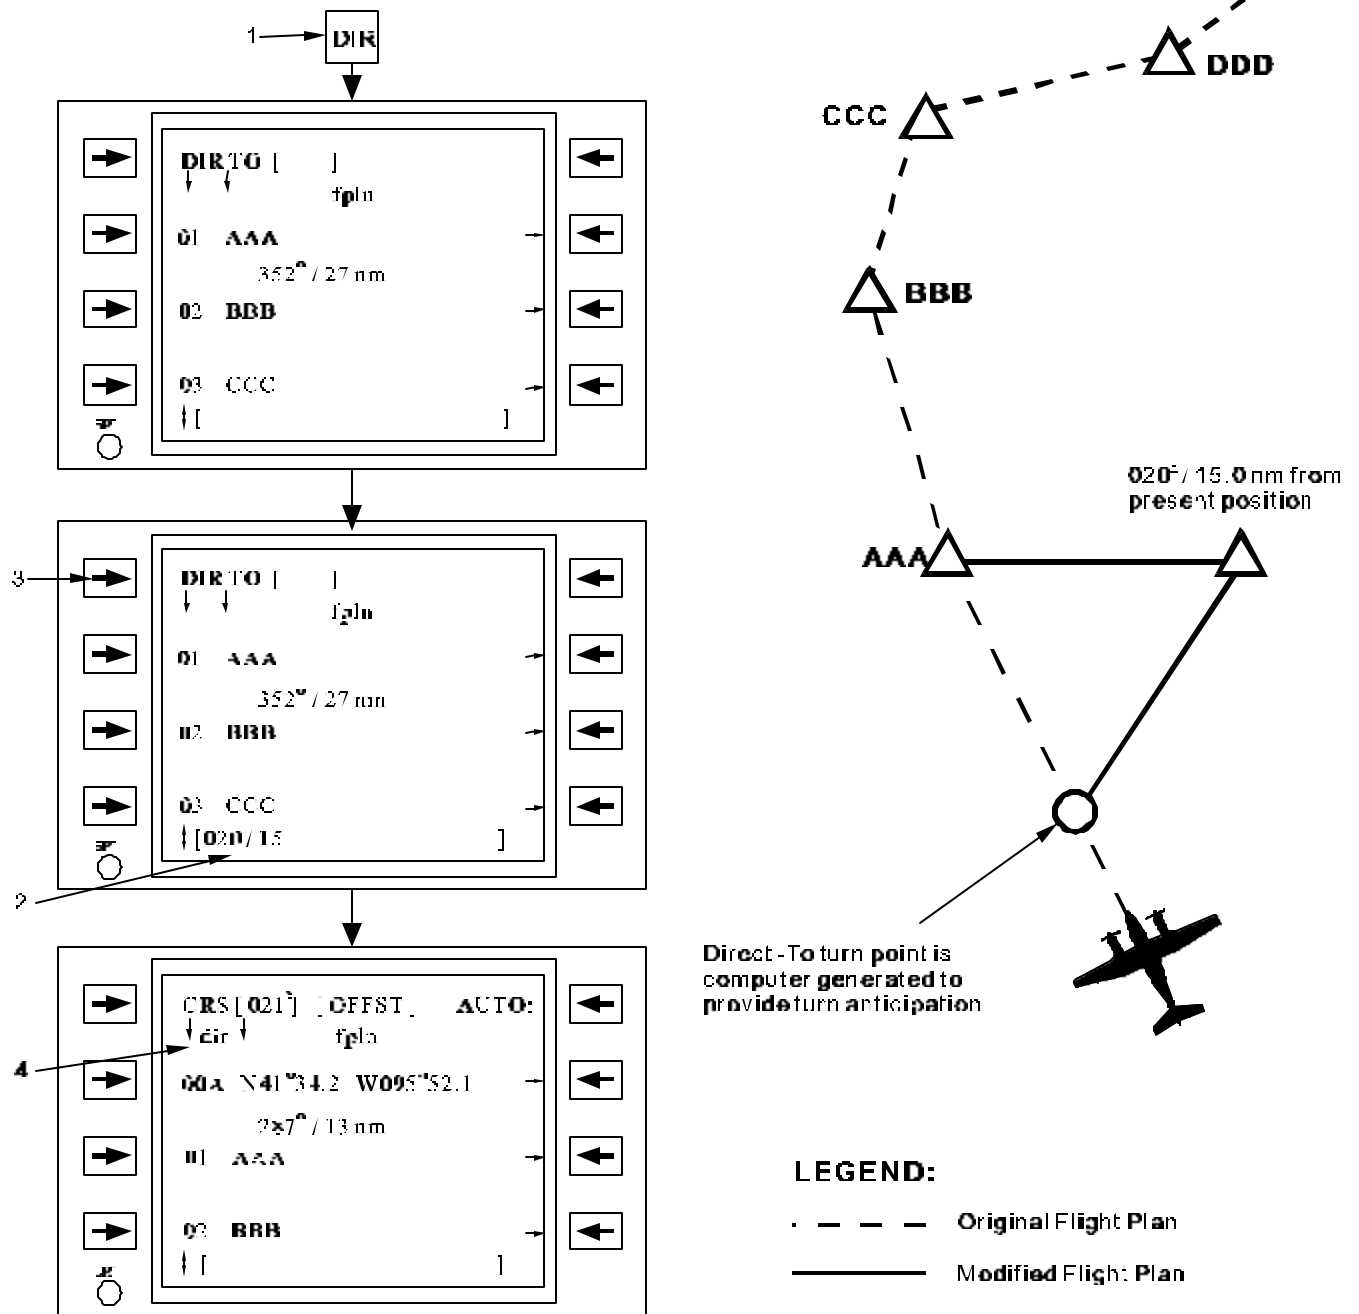

Figure 3B-44. Direct-To Vector From Present Position
(5) *Direct-To Vector From Present Position.* The impromptu point may also be defined as a vector from the present position of the aircraft. Vector waypoints are handled in exactly the same manner as a normal waypoint except that the FMS-800 computes the waypoint position from present position. Refer to Figure 3B-44 and Table 3B-35.